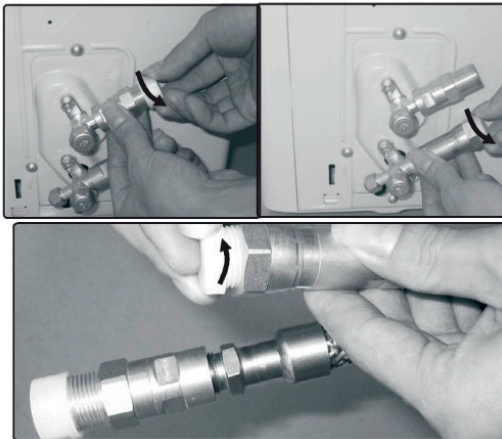

Fig. 6.2
- Do not remove the plastic seals from the outdoor unit and the appropriate refrigerant pipes until immediately before you connect them, Fig.6.2